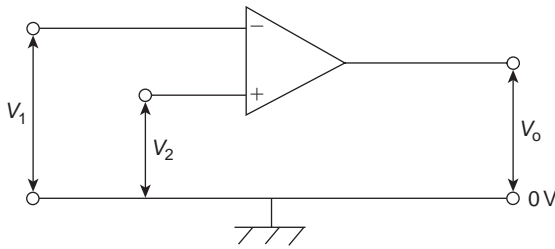

Figure 21.13
If both inputs of the op amp shown in Fig. 21.13 are used simultaneously, then from equation (1), page 419, the output voltage is given by: